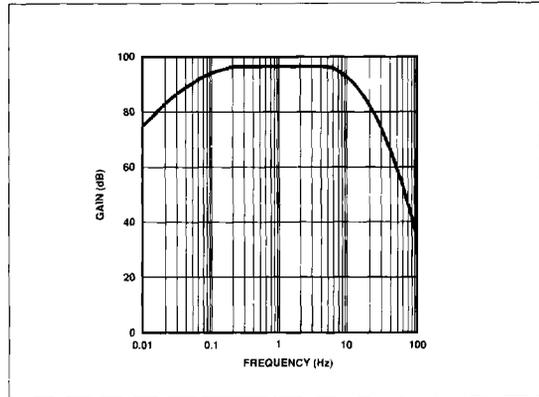

FIGURE 8: 0.1Hz to 10Hz Peak-to-Peak Voltage Noise Test Circuit Frequency Response
4. The test time to measure 0.1Hz to 10Hz noise should not exceed 10 seconds. As shown in the noise-tester frequency-response curve of Figure 8, the 0.1Hz corner is defined by only one pole. The test time of 10 seconds acts as an additional pole to eliminate noise contribution from the frequency band below 0.1Hz.